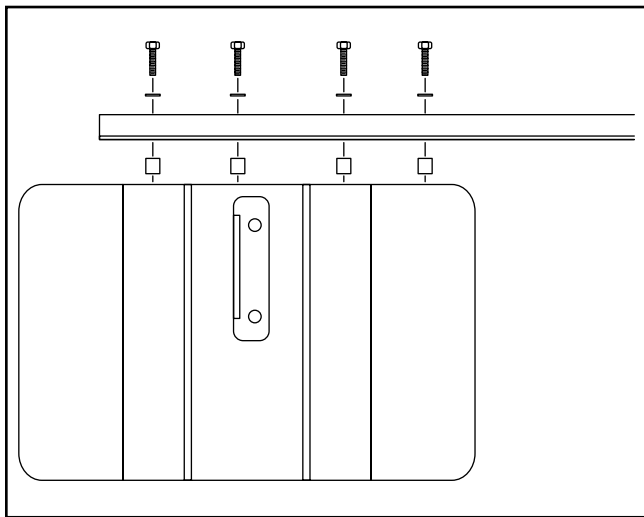

Figure 9. Rear rail attachment procedure.
2. Attach the rear rail (the shorter of the two rails) to the table top using the spacers, hex bolts and lock washers supplied, as shown in **Figure 9**. Use an adjustable square set to $15/32$ " to measure the rail so it is consistently $15/32$ " below the top of the table.